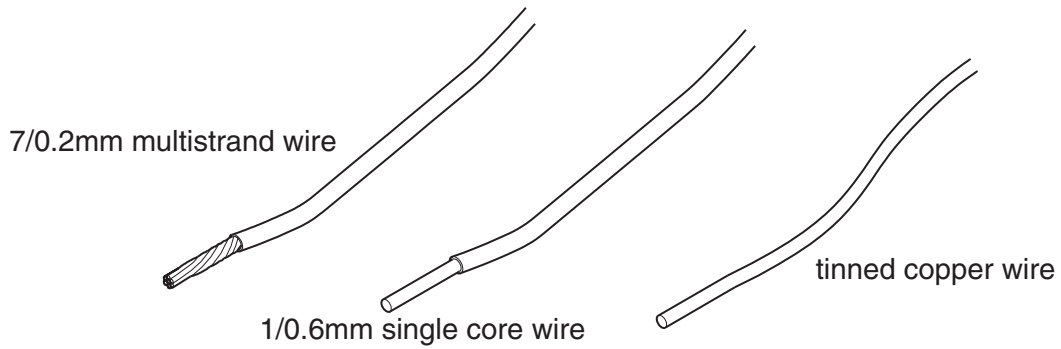

Fig. 3
- (b) (i) It is often necessary to solder wires to the legs of an LDR before fitting it into a casing. Three types of wire are shown in Fig. 3. State the most suitable wire for this type of connection.